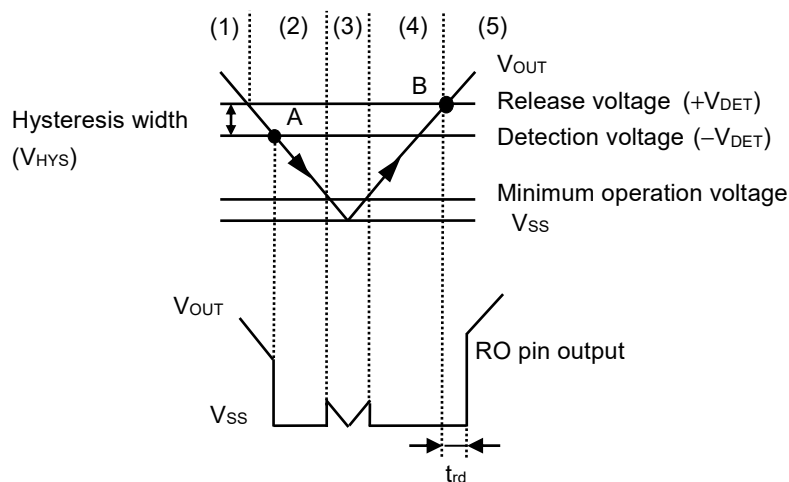

Figure 34 Timing Chart of Detector Block
- (1) When the output voltage (V_{OUT}) of the regulator is release voltage ($+V_{DET}$) of the detector or higher, the Nch transistor (N1 and N2) are turned off and "H" is output to the RO pin. Since the Pch transistor (P1) is turned on, the input voltage to the comparator (C1) is $\frac{R_B \cdot V_{OUT}}{R_A + R_B}$.
- (2) Even if V_{OUT} decreases to $+V_{DET}$ or lower, "H" is output to the RO pin when V_{OUT} is the detection voltage ($-V_{DET}$) or higher. When V_{OUT} decreases to $-V_{DET}$ (point A in **Figure 34**) or lower, N1 which is controlled by C1 is turned on, and C_{DLY} is discharged. If the DLY pin voltage (V_{DLY}) decreases to the lower reset timing threshold voltage (V_{DRL}) or lower, N2 of output stage of C2 is turned on, and then "L" is output to the RO pin. At this time, P1 is turned off, and the input voltage to C1 is $\frac{R_B \cdot V_{OUT}}{R_A + R_B + R_C}$.
- (3) If V_{OUT} further decreases to the IC's minimum operation voltage or lower, the RO pin output is "H".
- (4) When V_{OUT} increases to the IC's minimum operation voltage or higher, "L" is output to the RO pin. Moreover, even if V_{OUT} exceeds $-V_{DET}$, the output is "L" when V_{OUT} is lower than $+V_{DET}$.
- (5) When V_{OUT} increases to $+V_{DET}$ (point B in **Figure 34**) or higher, N1 is turned off and C_{DLY} is charged. N2 is turned off if V_{DLY} increases to the upper timing threshold voltage (V_{DU}) or higher, and "H" is output to the RO pin.